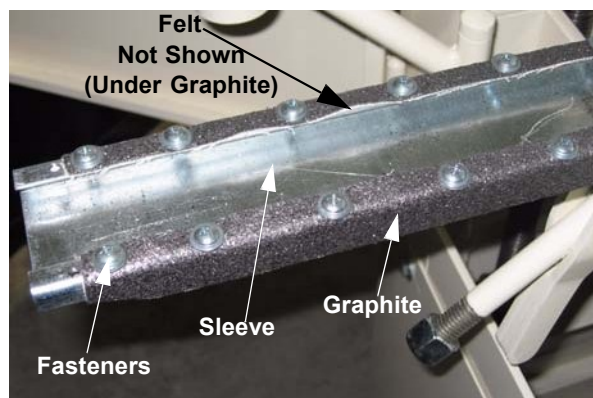

Figure 61: Platen Component
1. The platen sleeve. See Fig. 61.
2. The platen graphite. See Fig. 61.
3. The platen felt. See Fig. 61.
1. Remove the small fasteners that hold the graphite in place. See Fig. 61.
2. Remove the graphite. See Fig. 61.
4. Replace the graphite and felt if necessary. See Fig. 61.